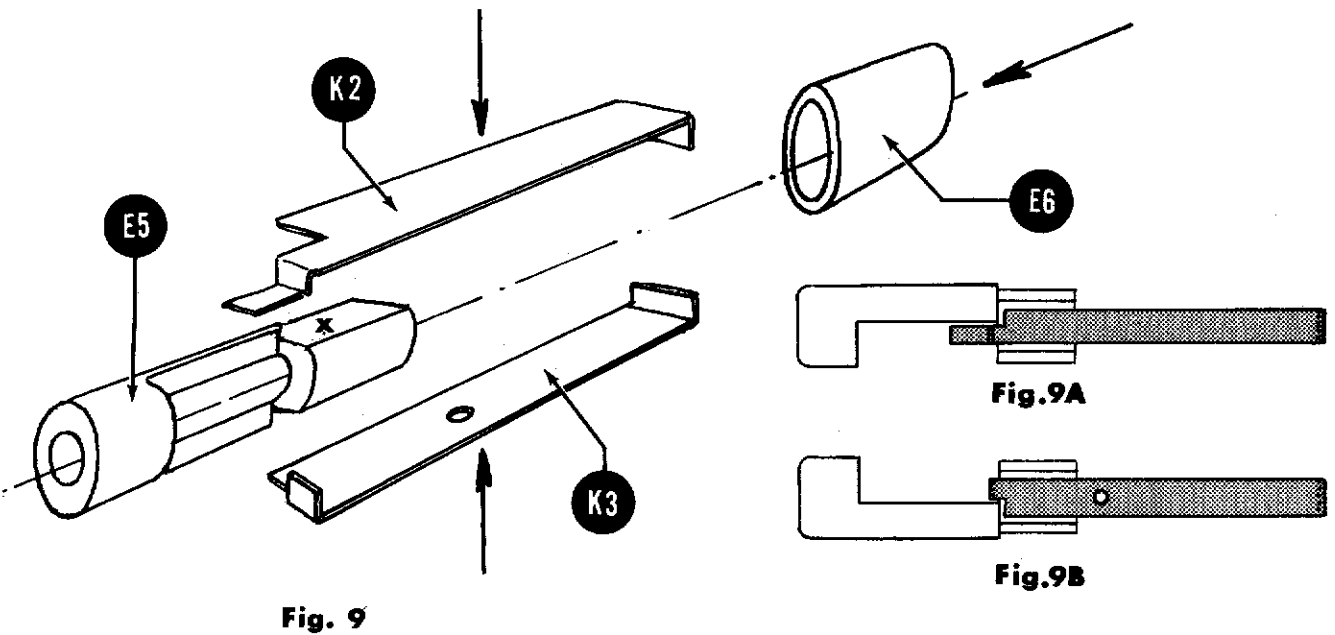

Fig. 9
- () Fig. 9. Study the figure before proceeding with the assembly. Phosphor-bronze contacts K2 and K3 are formed differently and may not be interchangeable from the relative positions shown in the drawing. K2 and K3 can most easily be told apart by the small hole to be found in K3 but not in K2. Assemble as follows: Hold the black fiber contact holder E5 as shown in the figure. Lay K2 against the flat surface X of E5, position it as shown in Fig. 9A, and hold it there. Then lay K3 against the parallel flat surface of E5 underneath, position it as shown in Fig. 9B, and hold K3 in place also. Next catch the free ends of K2 and K3 in the large diameter Fiber tube E6, and then move E6 down over K2 and K3 to pin them against the flat surfaces of E5. This is a fairly tight fit and some force is required. E6 should finally rest against the shoulder of E5 past which it can not be moved.